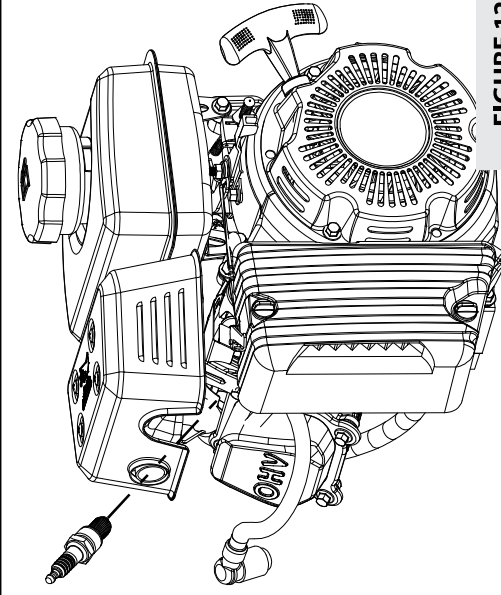

FIGURE 12
The spark plug is located directly under the muffler. **SEE FIGURE 12.**
r. **SEE FIGURE 12.**